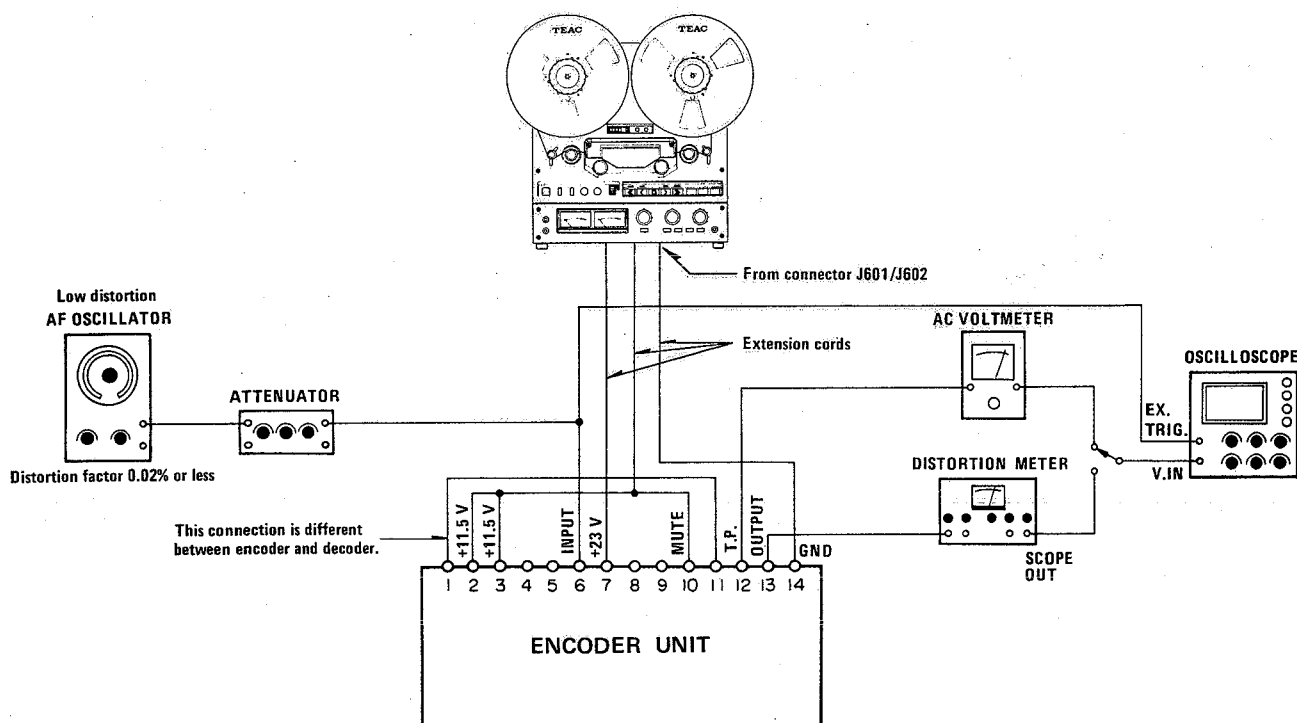

Fig. 3-6 Connection for encoder unit adjustment
1. Make connection as shown in Fig. 3-6.